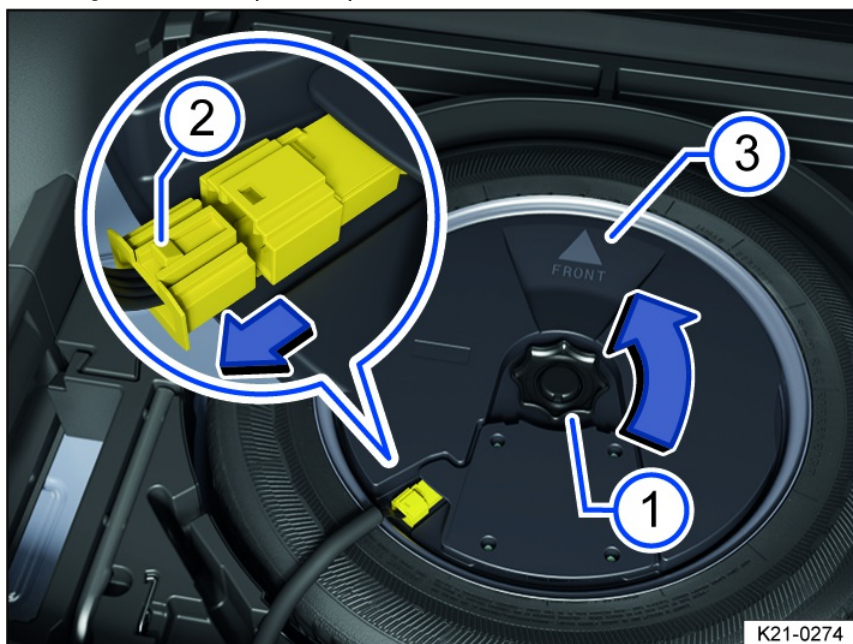

Fig. 171 In the luggage compartment: removing the subwoofer (version 2).
2. Remove the handle *fig. 171* in the direction of the arrow.
3. To release the connector, press the locking mechanism on the end of the connector *fig. 171*.
1. Place the subwoofer carefully in the rim well. The point of the "FRONT" fig. 171 arrow symbol on the subwoofer must face forward.
2. Connect the connector until the lock fig. 171 latches into place.
3. Turn the handwheel fig. 171 on the threaded pin in the opposite direction to the arrow until the subwoofer is securely fastened.